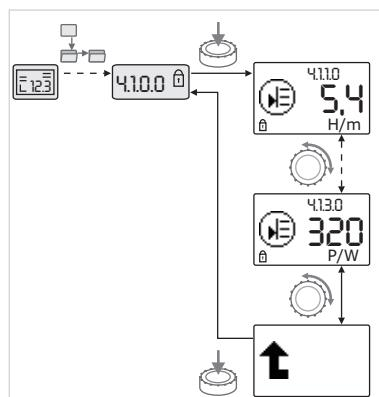

Fig. 39: Calling up information
- Turn the operating button to access the "Information" menu elements in the current sub-menu (see Fig. 39). For an explanation of the settings represented by the symbols, see the table in chapter 8.7 "Menu elements reference" on page 104.